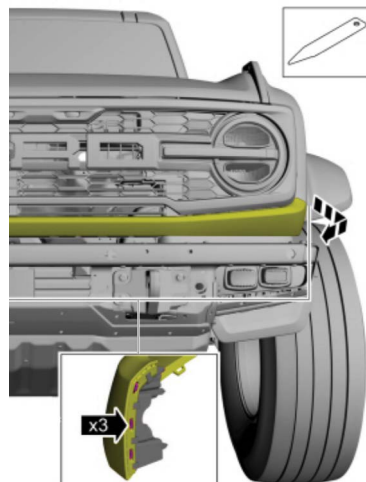

Figure 1
2. Using the interior trim remover, release the sides of the front bumper upper cover from the side brackets. [Figure 1]